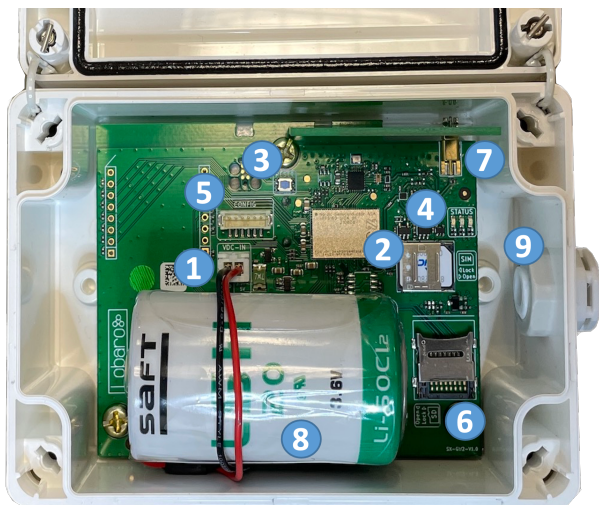

Figure 1: Device components
The associated battery is equipped with velcro fluff, which is to be attached to the velcro hooks of the device at position (8) when inserting it. Make sure that the connecting cable of the battery is routed around the battery body as shown in Fig.1. Then connect the plug connector of the battery to the reverse polarity protected socket at position (1).